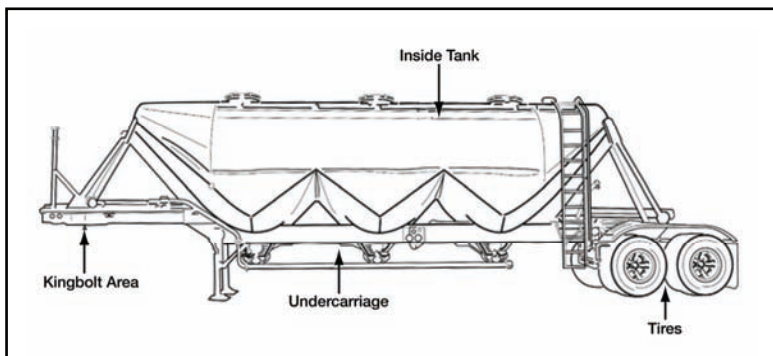

Figure 191-376-5141-4. Closed hopper vessel
e. Determine if the commercial vehicle is a gasoline trailer (see figure 191-376-5141-5).